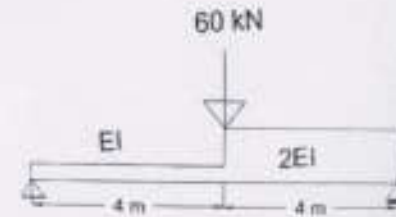

Figure 3
3. Determine the deflection under 60 kN load in the beam shown in Figure 3 using strain energy method. (10)